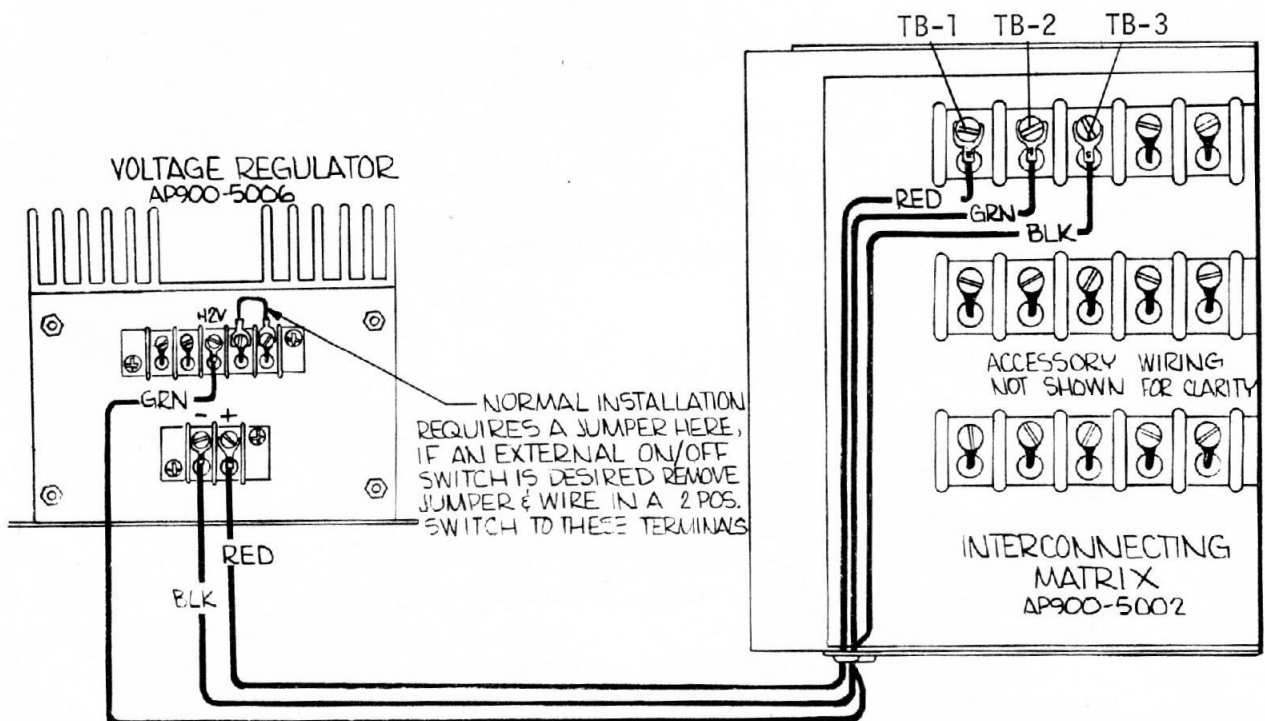

FIGURE 42. WIRING VOLTAGE REGULATOR TO MATRIX
3. Connect 3 wires (not provided) to the Voltage Regulator, as shown in Figure 42.
5. Again referring to Figure 42, attach one wire to TB3-1, one wire to TB3-2, and one wire to TB3-3.